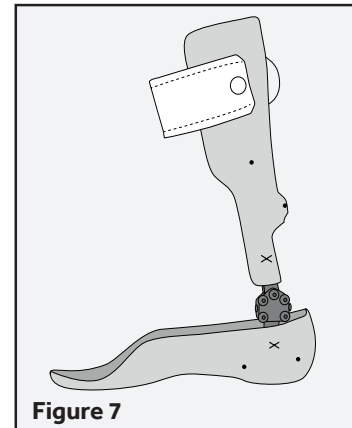

Figure 7
9. Mark additional holes for assembly on "Y" stirrup attachment and proximal upright. See Figure 7